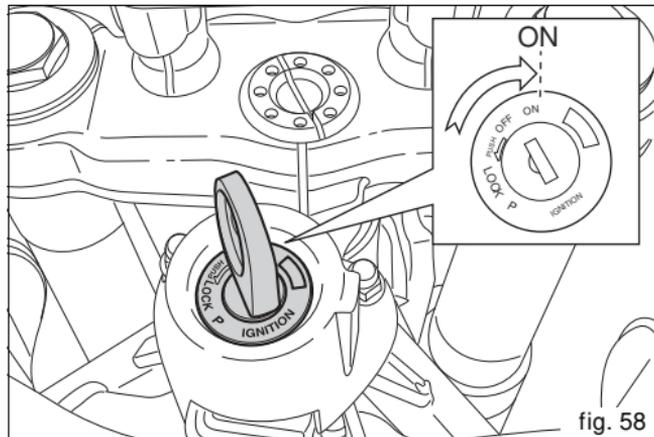

fig. 58
- 1) Move the ignition key to ON (fig. 58). Make sure the green light N (8, fig. 3) and the red light  (7, fig. 3) on the instrument panel are on.